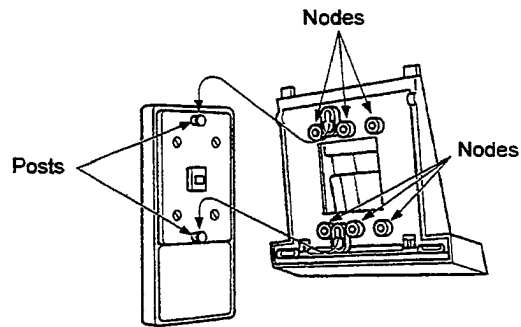

Figure 4-22 Attaching the Base Unit to the Wall
3. Attach the base unit to the posts on the wall plate (locally provided). Using locally provided screws, secure the base unit to the wall. Place the screws in the nodes provided on the base unit. (Place the wider end of the base unit down.) Attach the base unit to the wall plate as illustrated in Figure 4-22 Attaching the Base Unit to the Wall.